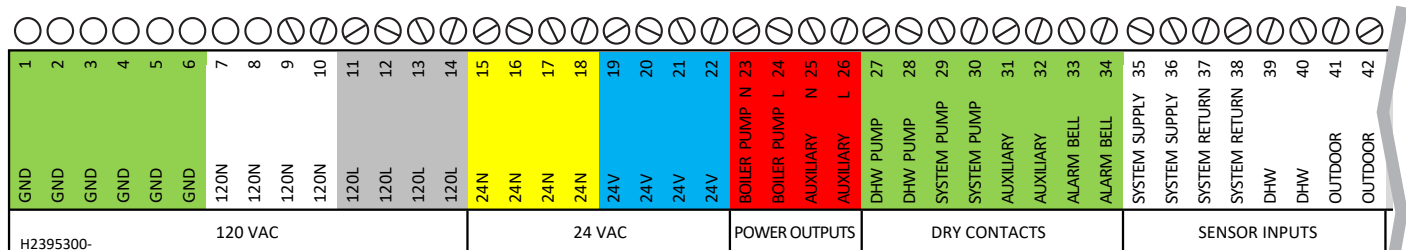
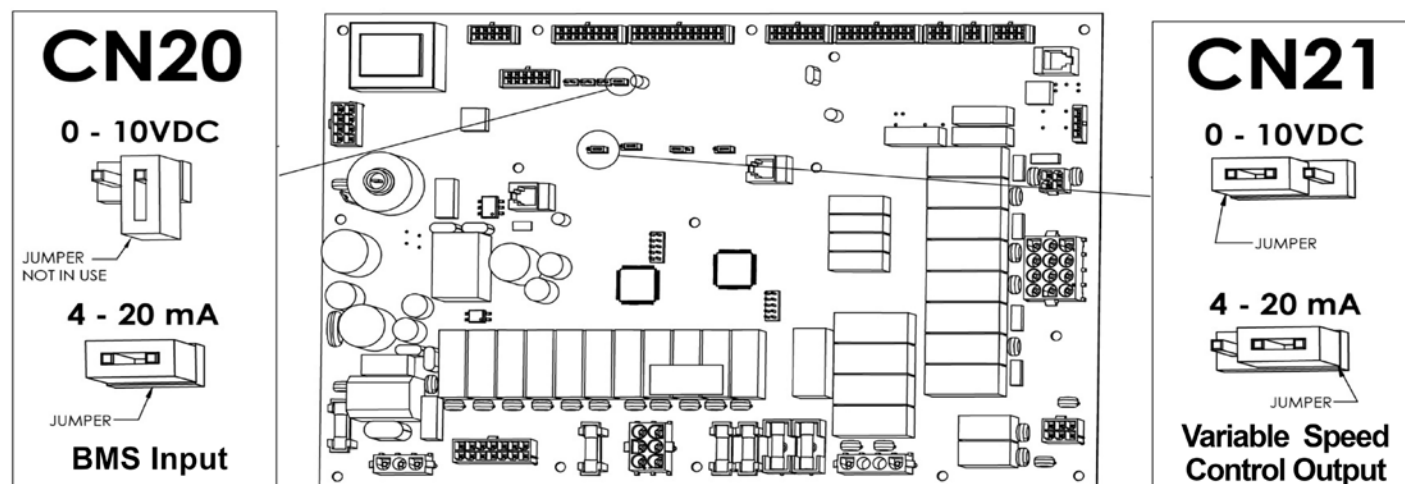

Figure 19. Field Connections Terminal Block
Figure 22. Analog IN / Out. Jumper locations at the integrated control board
**DHW Pump** - if connecting a domestic hot water (DHW) pump, use terminals 27 and 28 (See Figure 19) as this is a dry contact, the DHW pump supply voltage or DHW pump relay coil voltage would be applied at terminal 27, and when the DHW pump is activated, would be available at terminal 28. Contact ratings are 250VAC, 1.5A maximum. DHW pump functionality is configured using the touch screen.
**System Supply** - if used, is connected to terminals 35 and 36 (See Figure 19 on page 40). When connected, the controller automatically detects the presence of this sensor and the temperature is shown on the home screen above the red system supply arrow. When installed, the unit controls the firing rate to maintain the system supply temperature to the heat demand set point.
TT1 - if a thermostat/aquastat or end switch (isolated contact only) is used as a heat demand, connect to terminals 43 and 44 (See Figure 19 on page 40).
BMS – if an analog input (0-10VDC or 4-20mA) from a BMS is used as a remote set point or remote firing rate command, wire to terminals 49 and 50. (See Figure 19 on page 40) Polarity is shown on the terminal label. Selecting voltage or current input is accomplished through jumper placement on the control board. See Figure 22. Analog BMS functionality is configured using the touch screen.
Pump – When using Variable Speed Pump Control, wire the pump speed wires to terminals 51 and 52. Polarity is shown on the terminal label. Selecting voltage or current output is accomplished through jumper placement on the control board. See Figure 22
Run - when used, is connected to terminals 53 (common), 54 (normally closed), and 55 (normally open) (See Figure 19 on page 40). The controller closes the normally open set of contacts whenever the unit is running. Contact ratings are 250VAC, 0.6A maximum.
Cascade - Prior to wiring units for cascade operations, select one unit as the lead boiler/heater. Other units connected to the lead boiler/heater will be referred to as lag units. Communication between lead and lag units is accomplished using RS485. When wiring these units for cascade operations, use terminals 59, 60, and 61 (See Figure 19 on page 40). Use 2-wire twisted pair, shielded w/drain (communication cable) between units. Connect one wire of the communication cable to A (-), terminal 60, and the other wire to terminal B (+), terminal 59, and the drain wire to GND, terminal 61. Connect the other end of the cable to the next unit, matching the termination wiring on the previous unit, except for GND. Only connect the drain wire to ground on one end of the cable to avoid ground loop issues. If more than two units are cascaded together, daisy chain the wiring from unit to unit, keeping the cables as short as possible. A system supply sensor must be installed and connected to the lead boiler. The lead boiler will use this system supply sensor as the temperature control sensor for cascade operations. TT1 terminals are used to initiate a heat demand at the lead boiler.
BMS – if communicating to the unit via RS485 serial communications, either Modbus or BACnet MSTP, connect to terminals 62, 63, and 64 (See Figure 19 on page 40). Use 2-wire twisted pair, shielded w/drain (communication cable) between units. Connect one wire of the communication cable to A (-), terminal 63, and the other wire to terminal B (+), terminal 62, and the drain wire to GND, terminal 64.